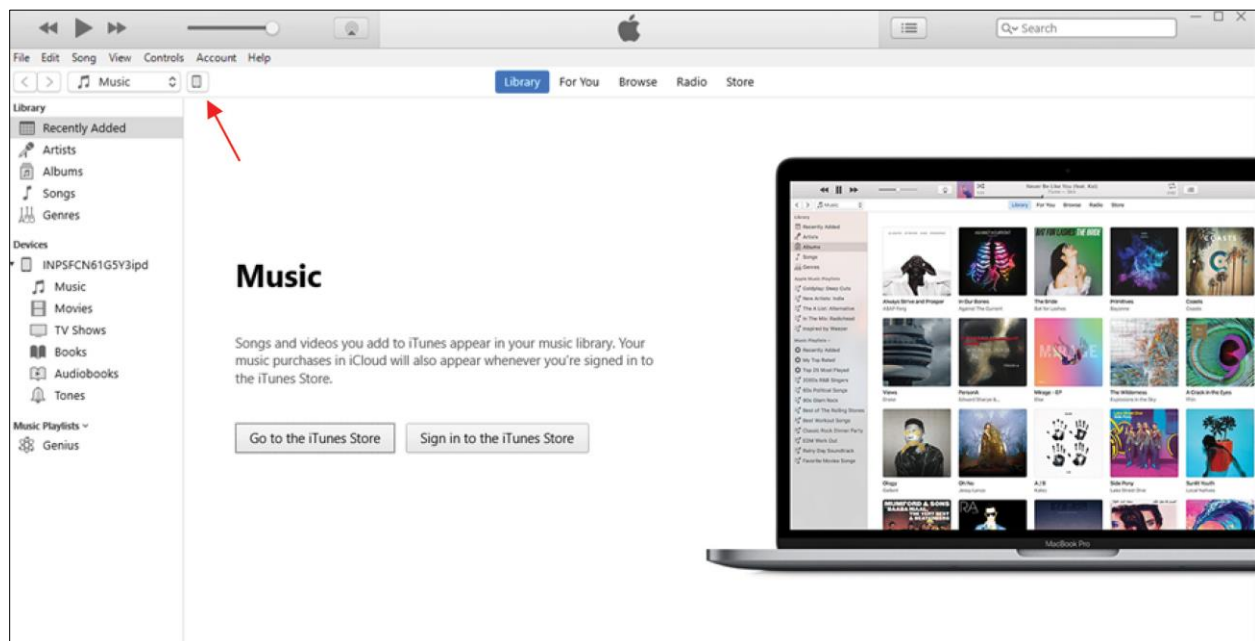

Figure 3. An example of the iTunes home screen on a computer. The red arrow points to the iPad icon showing that it is connected to the computer.
4. On the upper left corner of the iTunes window an iPad icon should appear showing that the iPad is connected to the computer (see the red arrow in Figure 3 below). Click on the iPad icon.